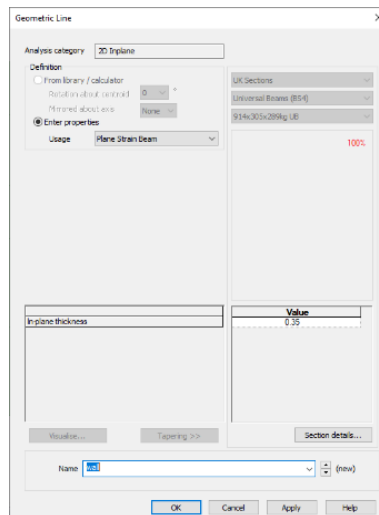

Figure 19: Wall geometric properties
- Change the name to **Wall**, then click **OK** (figure 19).